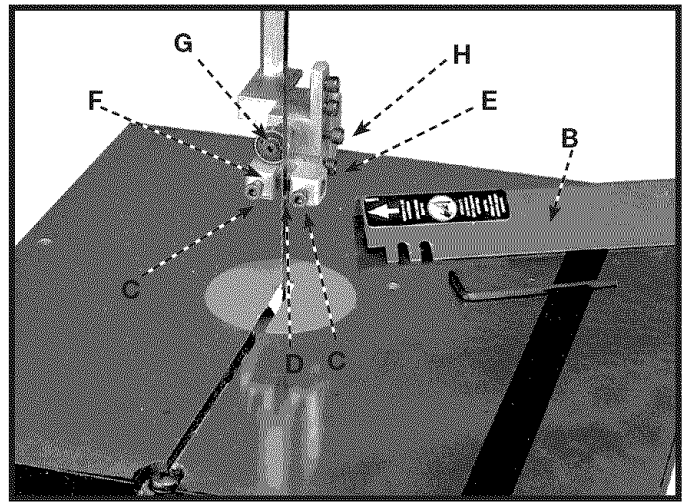
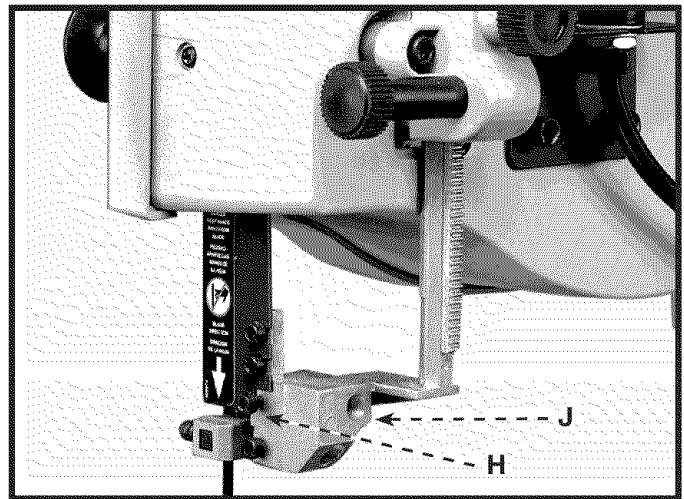

Fig. 27
Fig. 28
⚠ WARNING Upper blade guard (b) Fig. 27 is shown removed for clarity. Always make sure the upper blade guard is installed and properly adjusted before operating the band saw.
1. Loosen the two screws (C) Fig. 27, and adjust the blade guides (D) as close as possible to the sides of the saw blade, being careful not to pinch the blade. Tighten the two screws (C).
2. Loosen screw (E) Fig. 27, and move the guide bracket (F) in or out until the front edge of the guides (D) are just behind the "gullets" of the blade teeth. Tighten screw (E).
3. The upper blade support thrust bearing (G) Fig. 27 prevents the saw blade from being pushed back too far when cutting. The support bearing (G) should be adjusted approximately 1/32" behind the blade. The blade should also overlap the outside diameter of the ball bearing by approximately 1/8". To adjust:
4. Loosen screw (H) Fig. 28, and slide support bearing (G) in or out until it is approximately 1/32" behind the saw blade.
5. The upper blade support bearing (G) Fig. 27, is set on an eccentric shaft. To change position of bearing (G), use a straight screwdriver, rotate shaft (J) Fig. 28, until the blade properly overlaps the support bearing. Then tighten screw (H).